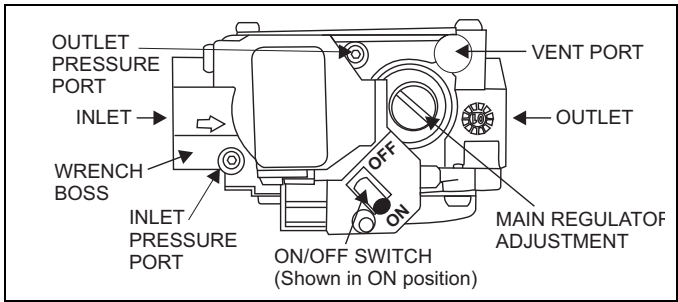

FIGURE 37: Gas Valve
Inlet and manifold gas pressure may be measured by connecting the "U" tube manometer to the gas valve with a piece of tubing. Follow the appropriate section in the instructions below. Refer to Figure 37 for a drawing of the locations of the pressure ports on the gas valve.
- 1. Refer to Figure 37 for location of pressure regulator adjustment cap and adjustment screws on main gas valve.